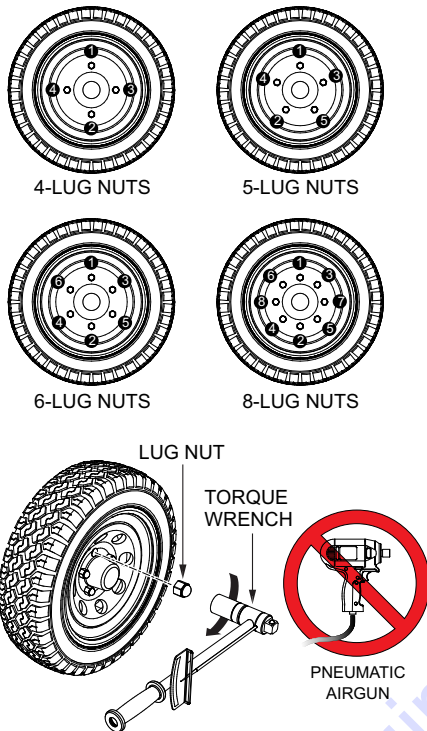

Figure 47. Wheel Lug Nuts Tightening Sequence
2. Torque all lug nuts in sequence. See Figure 47. **DO NOT** torque the wheel lug nuts all the way down. Tighten (torque) each lug nut in 3 separate passes as defined by Table 10.